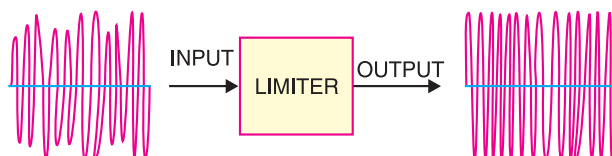

Fig. 16.22
3. **Limiter Stage.** The output from IF stage is fed to the limiter. This circuit is an IF amplifier tuned to 10.7 MHz but its main function is to remove AM interference from the FM signal. Fig. 16.22 shows how the limiter removes AM interference from the FM signal.